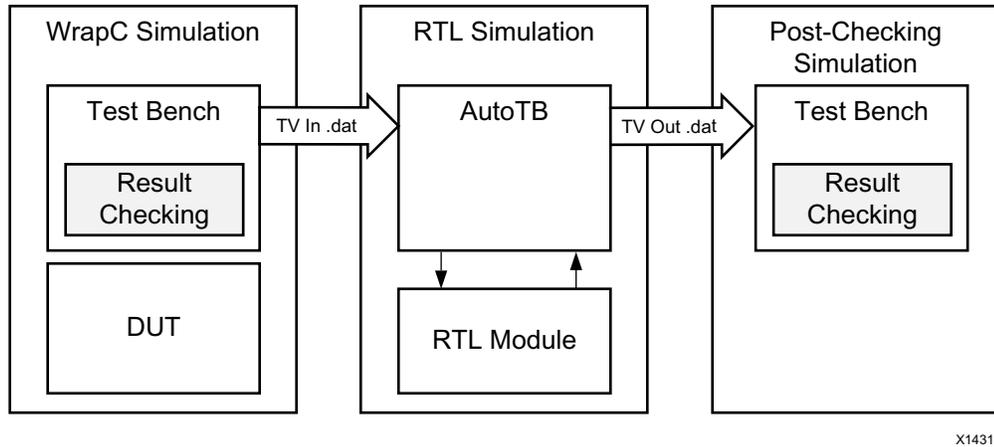

Figure 1-72: RTL Verification Flow
C/RTL co-simulation uses the C test bench to automatically verify the RTL design. The verification process consists of three phases, shown in Figure 1-72.
- **Reduce Disk Space:** The flow shown Figure 1-72 in saves the results for all transactions before executing RTL simulation. In some cases, this can result in large data files. The `reduce_diskspace` option can be used to execute one transaction at a time and reduce the amount of disk space required for the file. If the function is executed N times in the C test bench, the `reduce_diskspace` option ensure N separate RTL simulations are performed. This causes the simulation to run slower.